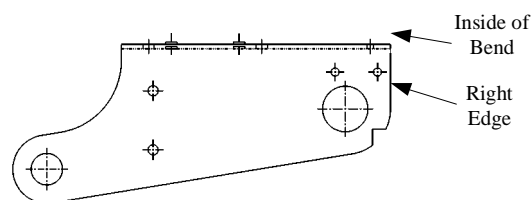

Figure 4. Small frame racking mechanism bracket.
4. **Small frame only.** Drill two 0.221"-diameter holes (#2 drill) in the racking mechanism bracket, as indicated in Figure 4. Place the holes as follows: